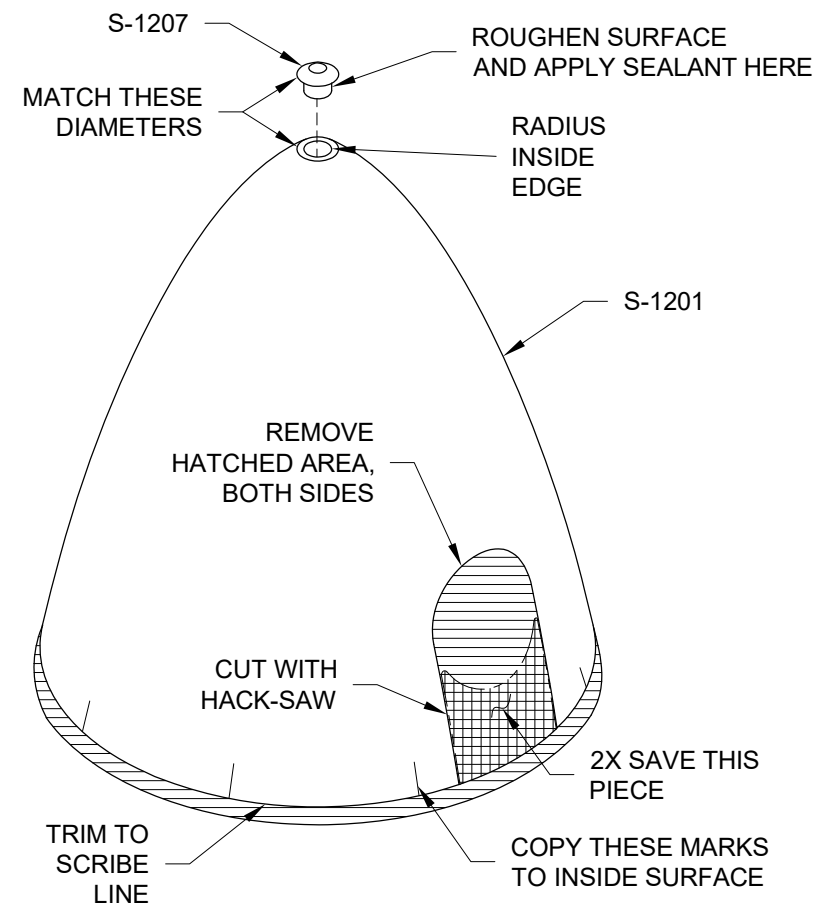

FIGURE 1: MAKING THE PROPELLER CUTOUT
Step 4: Sand the tip of the S-1201 until the outer diameter matches the outside diameter of the S-1207 as shown in Figure 1. Remove a little at a time with a flat sanding block. Care should be taken to keep the surface level.
Step 5: Using sandpaper, create a small radius on the inside edge of the S-1201 opening to allow the S-1207 to mate properly. See Figure 1.
Step 6: Roughen the surface of S-1207 with coarse grit sandpaper where it will contact the S-1201. Apply a thick smear of West Systems 105 two-part epoxy, or equivalent, to the S-1207 and insert in the S-1201. See Figure 1. Remove the excess epoxy. Let the epoxy fully cure before continuing.